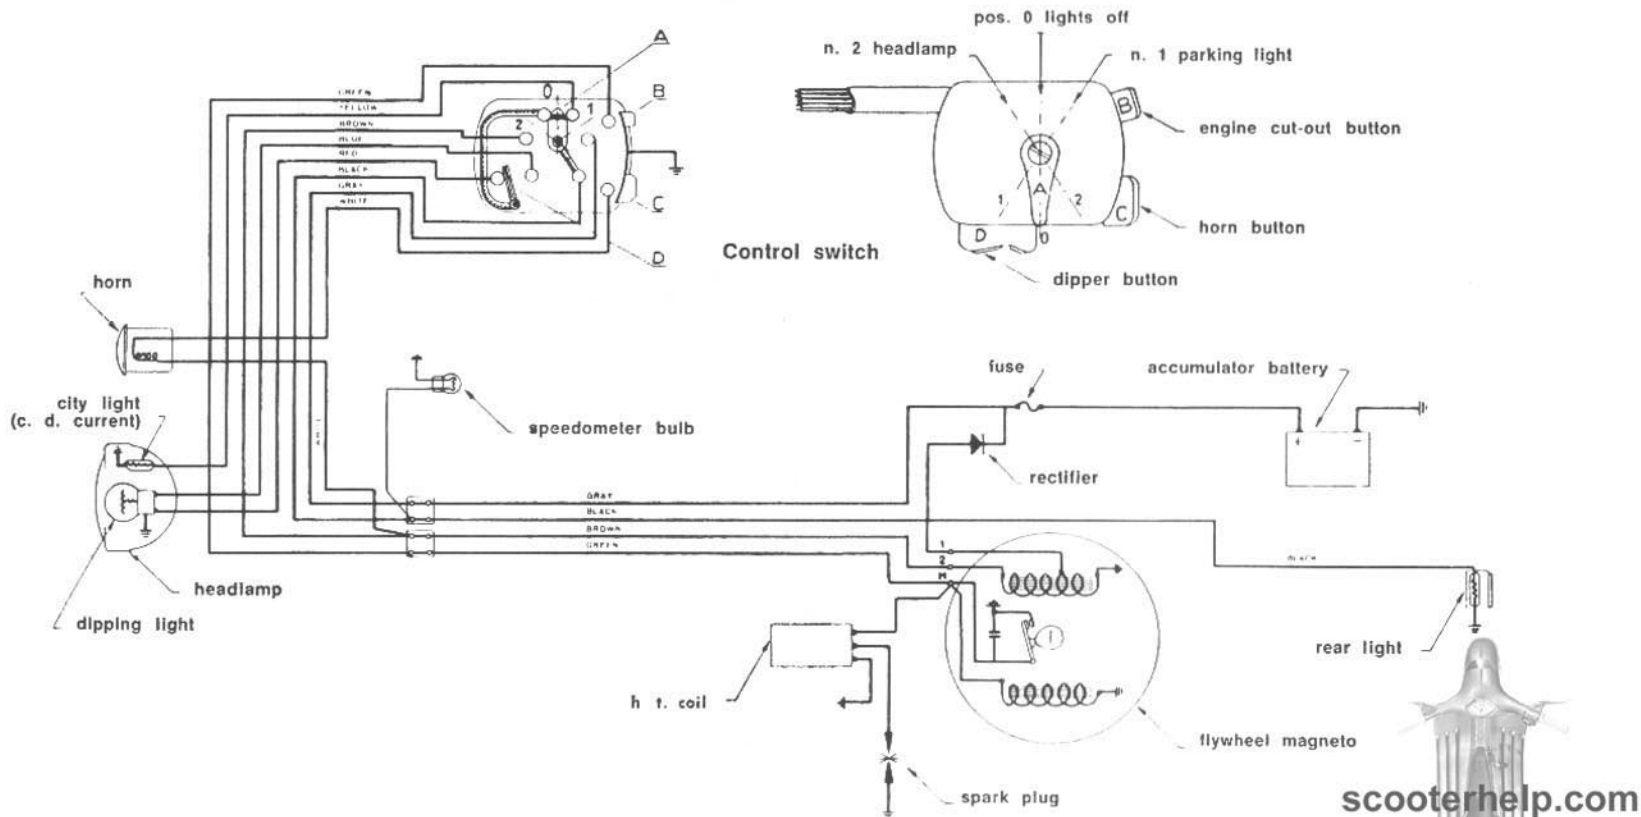

Fig. 6
b) **Electrical system with parking light** (diagram fig. 6):
The whole circuit is controlled from the main switch on the right-hand side of the handlebars (see fig. 1). The current for the speedometer 6V-1,5W light is taken from the junction box in the headlamp (see wiring diagram, fig. 6).